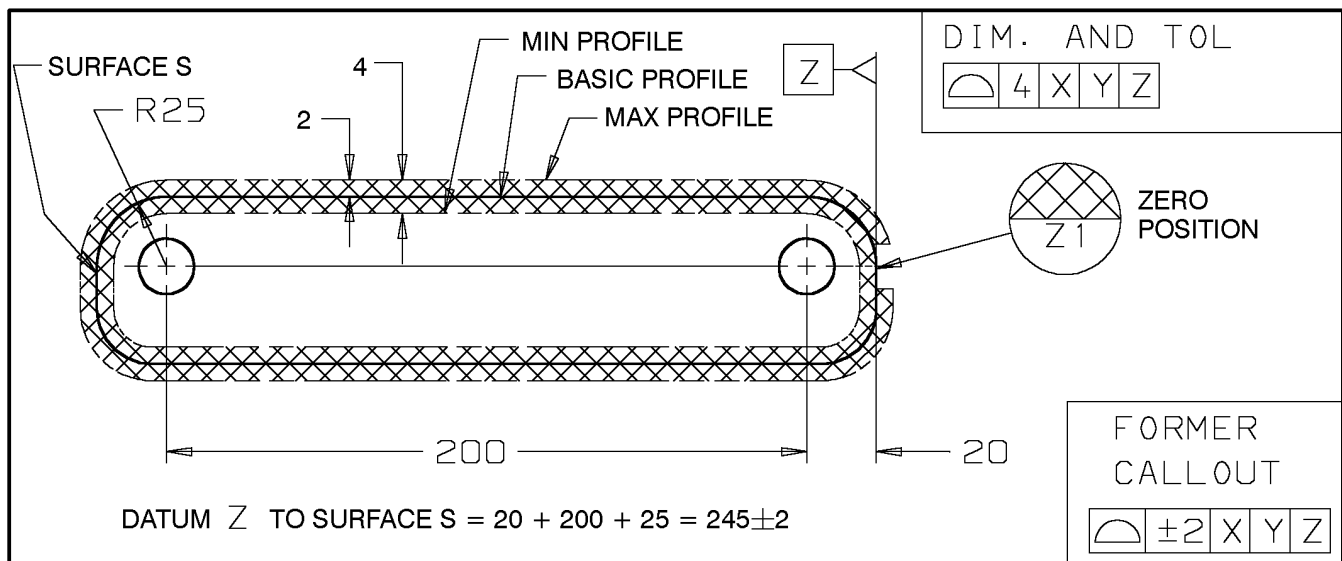

Figure 8 - Basic Dimensions
**9.1** Figure 8 illustrates the use of basic dimensions (see Paragraph 7.3.1.3) to determine the basic profile, or perfect location, of a surface in relation to a datum.
**9.5** The minimum and maximum profiles are shown in Figure 8 as dashed or broken lines with the resulting tolerance zones shown as crosshatched areas 4 mm wide and equally distributed 2 mm on both sides of the basic profile.